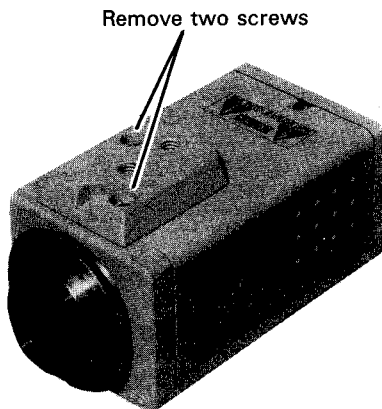

Fig. 2-1
- Referring to Fig. 2-1, remove two screws that secure the Camera Mounting and remove the Camera Mounting.